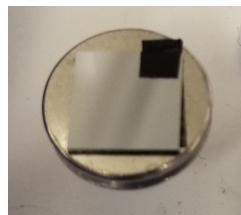

Figure 4.6: Ideal preparation of coated sample
3. For thick chips, wafers, and glass place etc. place a piece of conductive tape that connects the top surface of the metal to the stub to ground it (see Fig. 4.6).